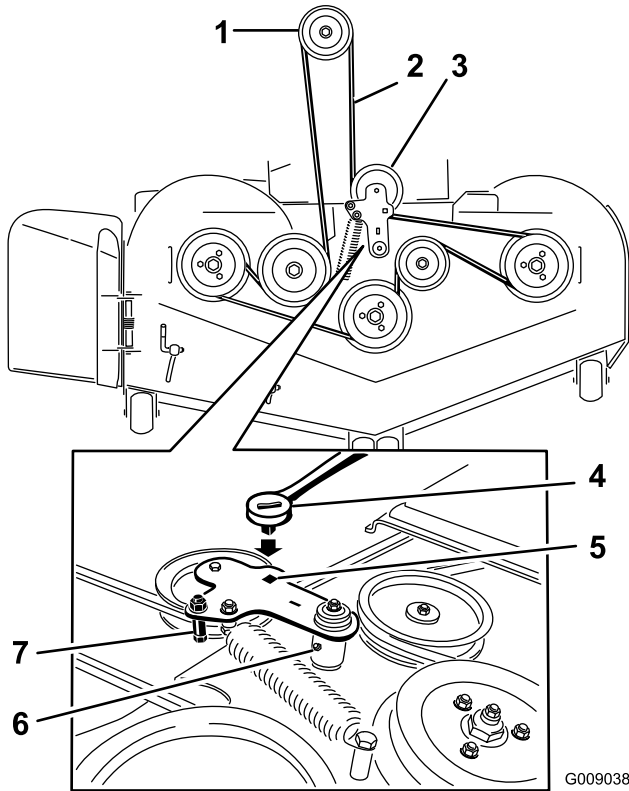

Figure 114
- Lift up the floor pan and insert a ratchet into the square hole in the deck idler (Figure 114).
- Rotate the deck idler clockwise and remove the mower belt (Figure 114).